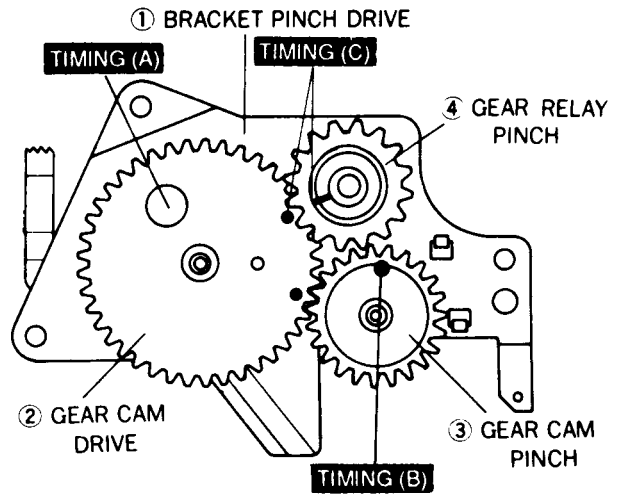

Fig. 49 Timing of Gear Cam Drive, Gear Cam Pinch & Gear Relay Pinch
1. Align the hole of the bracket pinch drive ① with the hole of the gear cam drive ②.
(Refer to timing (A) in Fig. 49)
2. Align the hole of the bracket pinch drive ① with the hole of the gear cam pinch ③.
(Refer to timing (B) in Fig. 49)
3. Align the protrusion on the side of the gear relay pinch ④ with the hole of the gear cam drive ②.
(Refer to timing (C) in Fig. 49)